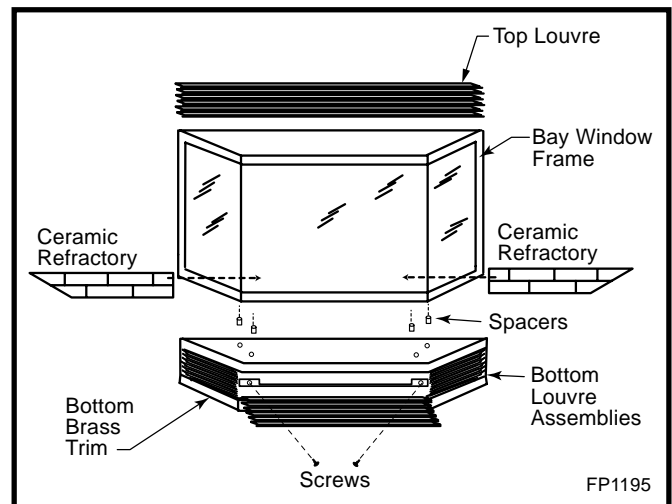

Fig. 47 Bay window installation.
5. Place the 2 pieces of ceramic refractory along the base of the bay window. (Fig. 47)